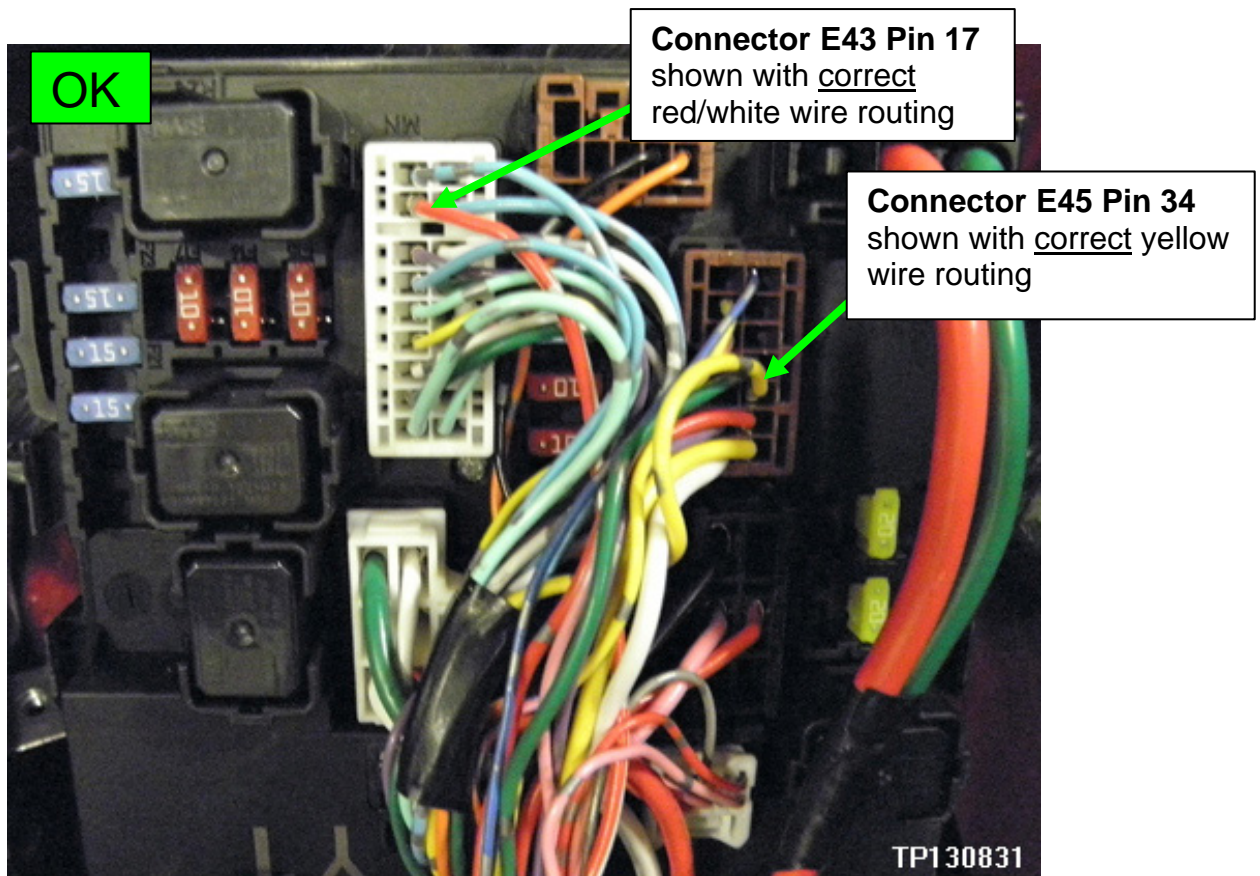

Figure 1
3. Inspect harness connectors shown in Figure 1.